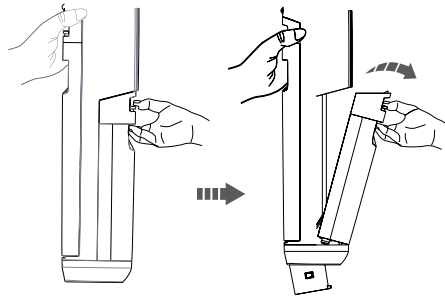

Fig 4
1. To remove: Press the release button to unlock the latch. Then, hold the main unit steady with one hand and pull the tank handle upward with the other hand until it releases (Fig 4).